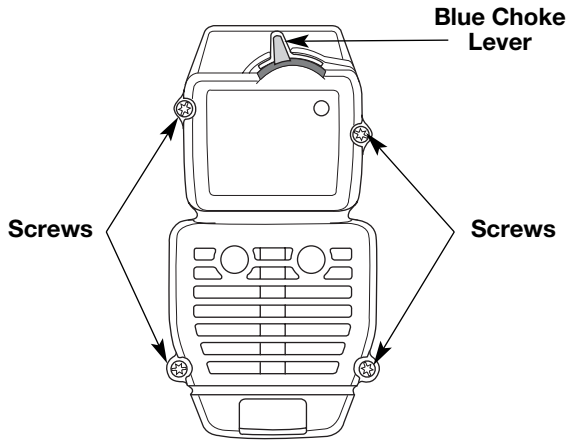

Fig. 24
1. Remove the four (4) screws securing the air filter/muffler cover (Fig. 24). Use a flat blade or T20 Torx bit screwdriver.
2. Insert the four (4) screws into the holes in the air filter/muffler cover (Fig. 24) and tighten. **Do not over tighten.**